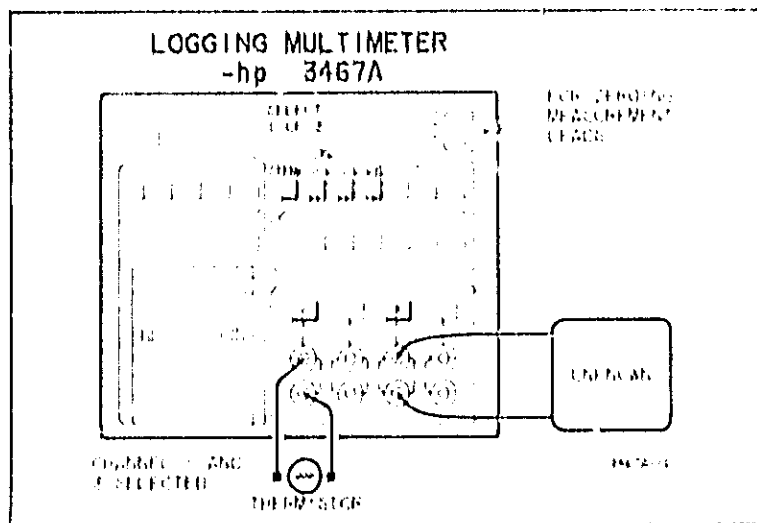

Figure 3-16. MIXED Mode Measurements.
- g. Connect the measurement leads to the voltage(s) or resistance(s) to be measured as shown in Figure 3-16.